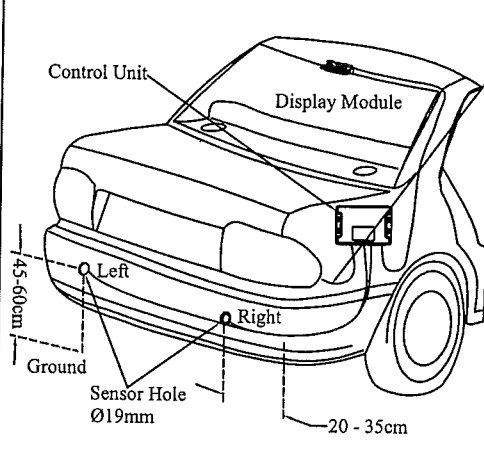

Fig. 24
1. Measure from both corners of the rear bumper and mark a horizontal distance of 20cm ~ 35cm for both left and right sensors. (Fig. 24)
2. Measure from the ground level a distance of 45cm ~ 60cm to indicate the final position of the sensors. (Fig. 24)
4. Drill two 19mm diameter through holes on the bumper markings. (Fig. 24)
5. Insert the left and right sensors into the 19mm diameter sensor holes respectively. (Fig. 24)
1. Locate a suitable surface to mount the control unit, preferably to be fitted to the right side steel panel inside the boot using screw and nut. (Fig. 24 & Fig. 25)